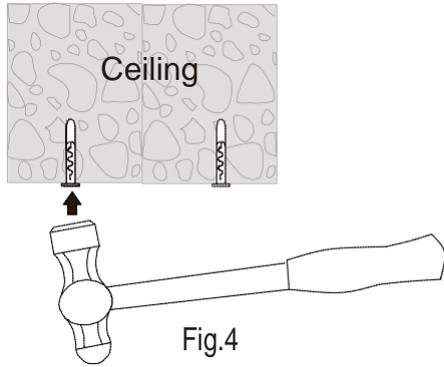

Fig.4
- Step4 Knock the plastic expansion screw into the hole which you drill (as Fig.4)